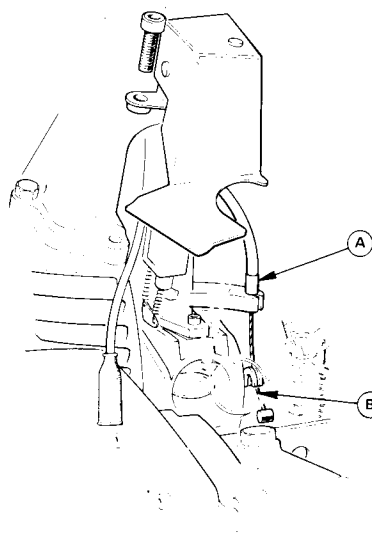

Fig. B41. Replacing the throttle butterfly cable
Refit the throttle butterfly cable (Fig B41) by positioning the inner cable roller nipple end (B) in the throttle butterfly operating lever to allow the outer cable to be positioned in the by-pass valve cast bracket (A).